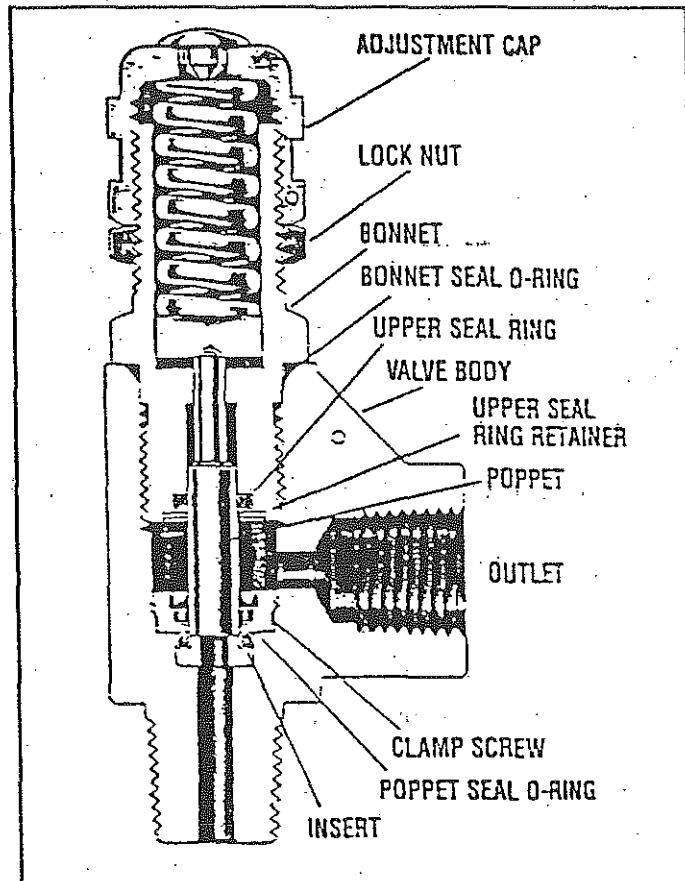

FIGURE 10-1 VALVE PART IDENTIFICATION
1. Note or mark the position of the adjusting cap with respect to the bonnet (see Figure 10-1).